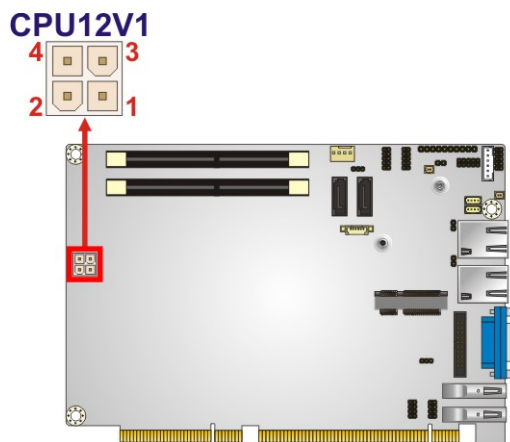

Figure 3-2: +12V ATX Power Connector Pinout Location
- CN Location:** See **Figure 3-2**